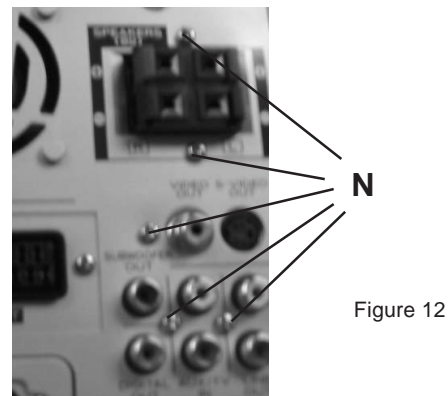

Figure 12
- 5) Loosen 5 screws "N" on the back panel as shown in Figure 12 from the back panel.